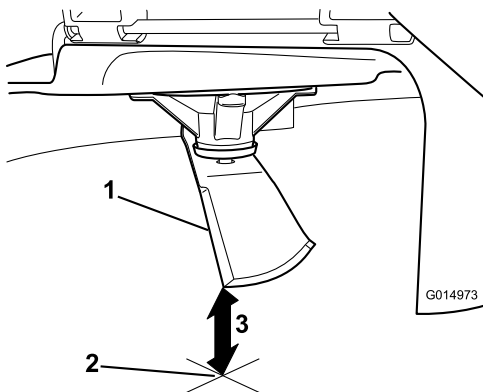

Figure 115
3. Measure from the tip of the blade to the flat surface (Figure 115).